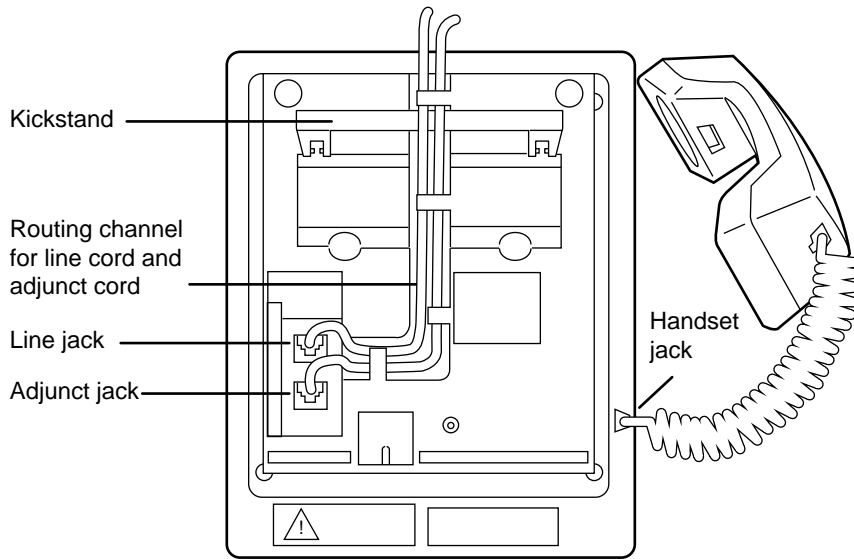

FIGURE 7-17. Line, Adjunct, and Handset Cord Routing for Desktop Installation
4. Snap one end of the 7-foot line cord into the Line jack and the adjunct cord (if applicable) into the Adjunct jack on the back of the voice terminal. See Figure 7-17 for the location of the jacks. For more information on installing adjuncts, refer to “Attaching Adjunct Equipment” later in this section (be sure you use the directions for the 8510T).
5. Thread the line (and adjunct cord if applicable) through the routing channel leading to the top of the voice terminal desktop stand, as shown in Figure 7-17. Make sure that each cord is placed securely under the four square tabs in the routing channel.
6. Snap one end of the coiled cord into the Handset jack (marked with the handset symbol) on the back of the voice terminal, as shown in Figure 7-17.
5. Remove the line cord from the line cord routing channel and unplug the cord from the Line jack. See Figure 7-17 for the location of the cord and jack.